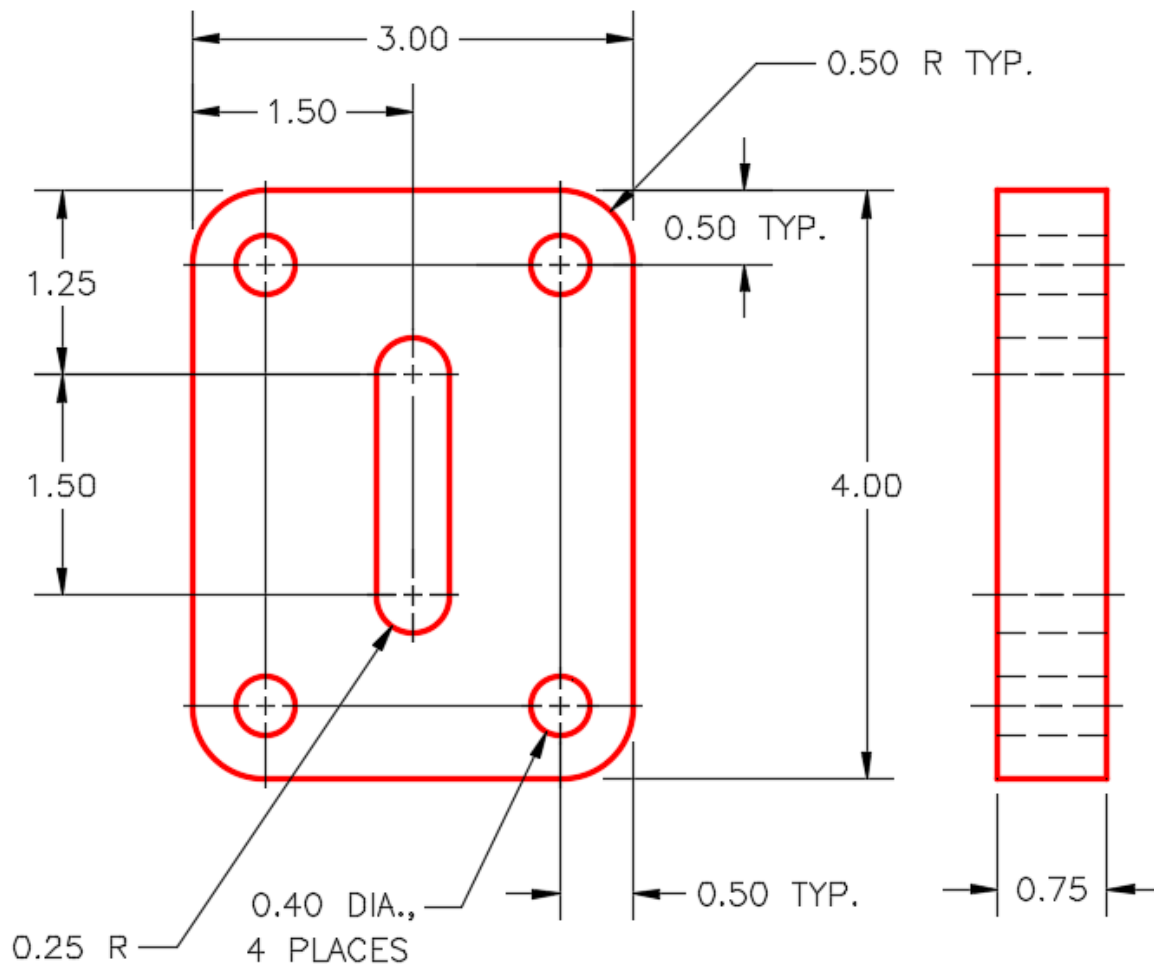

Figure Step 2
Step 2 Save and name the drawing: AutoCAD 3D Workalong 14-2. (Figure Step 2)